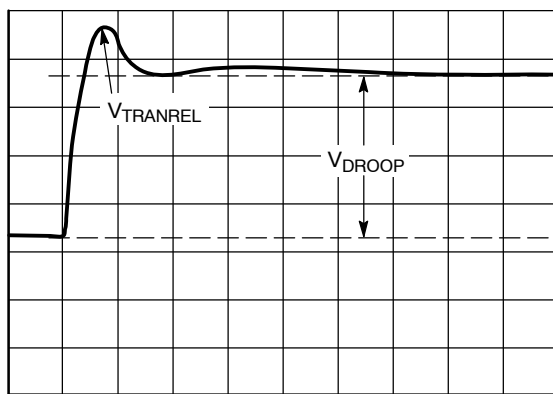

Figure 39. Transient Setting Waveform, Load Release
3. For load release (see Figure 39), if $V_{TRANREL}$ is larger than the value specified by IMVP-6.5, a greater percentage of output capacitance is needed. Either increase the capacitance directly or decrease the inductor values. (If inductors are changed, however, it will be necessary to redesign the circuit using the information from the spreadsheet and to repeat all tuning guide procedures).